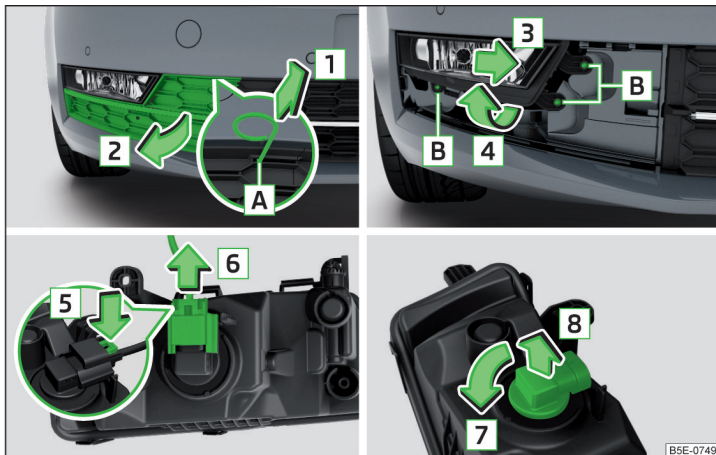

Fig. 358 Remove the fog lamp / bulb change - variant 1
› Fig. 358.
- › Insert the fog light opposite to the direction of arrow **4** » Fig. 358, push opposite to the direction of arrow **3** and bolt into place.